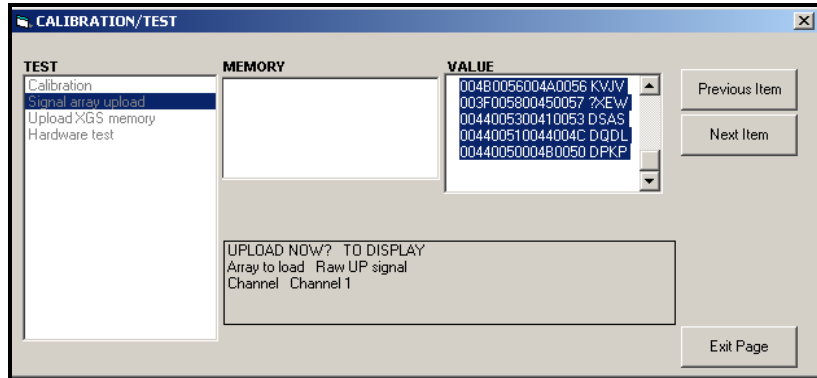

Figure B-4: Signal Array Data Displayed on PanaView
- If you double-click on *To Display*, the right pane of the window appears similar to Figure B-4 below, and the data is available for immediate evaluation. Click [Exit Page] to close the window and return to the *Calibration/Test* menu.